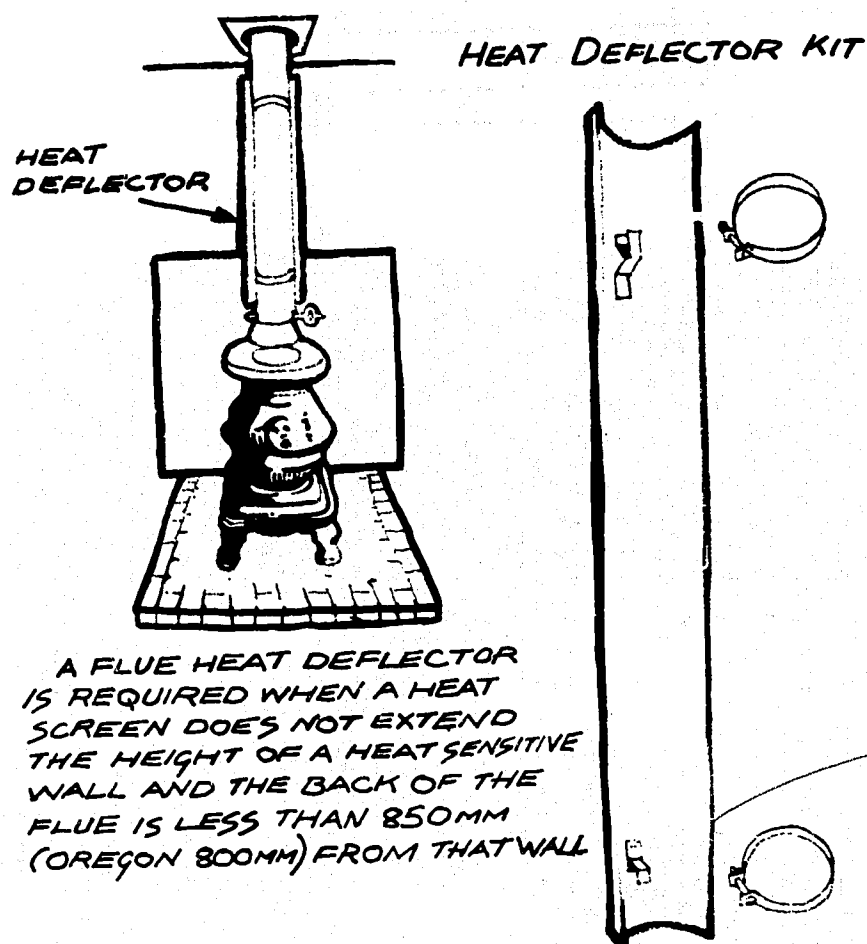

FIGURE 6
The screen must never be less than 1,200 mm high and such a screen is adequate on its own for wall distances not less than 850 mm. (Oregon 800 mm). If the distance is less than 850 mm (Oregon 800 mm) and the screen does not shield the full height of the wall, a flue heat deflector must be fitted, Figure 6.
than 850 mm (Oregon 800 mm) and the screen does not shield the full height of the wall, a flue heat deflector must be fitted, refer Figure 6.
The brick facing must extend at least 600 mm each side of the stove centreline and should be at least 1200 mm high. If the flue to wall distance is less than 850 mm (Oregon 800 mm) and the brick screen does not shield the full height of the wall, a flue heat deflector must be fitted, refer Figure 6.
2.1.11 If a Flue Heat Deflector is required, this may now be fitted to complete the installation, Figure 6. The bottom of the Flue Heat Deflector should not be less than 150 mm below the top of the heat screen on the wall. Assembly instructions accompany each Flue Heat Deflector Kit.